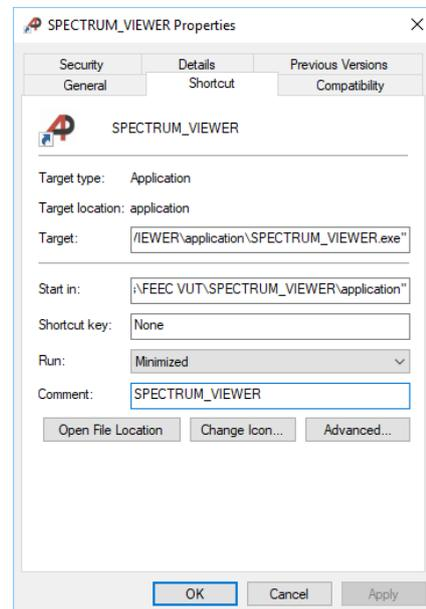

Fig. 7. Spectrum viewer properties.
3. The application can be run using the unzipped or installed SPECTRUM\_VIEWER.exe file (the installed file is usually located in c:\Program Files\...\SPECTRUM\_VIEWER\application\ directory). After installation it can also be executed from the Windows *Start* menu. The application launched from the *Start* menu will not probably find any configuration file. In such case go to SPECTRUM\_VIEWER shortcut location (right-click on the application icon in the *Start* menu) then go to *More* and *Open file location*. Right-click on the SPECTRUM\_VIEWER shortcut in the file location directory, select *Properties* and in the *Shortcut* folder copy the path except \SPECTRUM\_VIEWER.exe from *Target* box into *Start in* box as shown in Fig. 7.